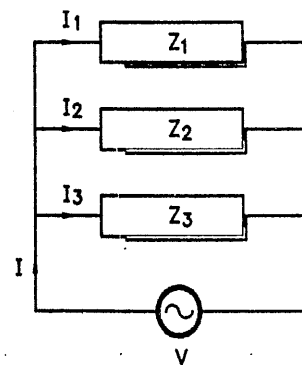

FIG. 2.66 : PARALLEL CIRCUIT
- Consider a circuit having three impedances Z_1 , Z_2 and Z_3 in parallel as shown in Fig. 2.66.